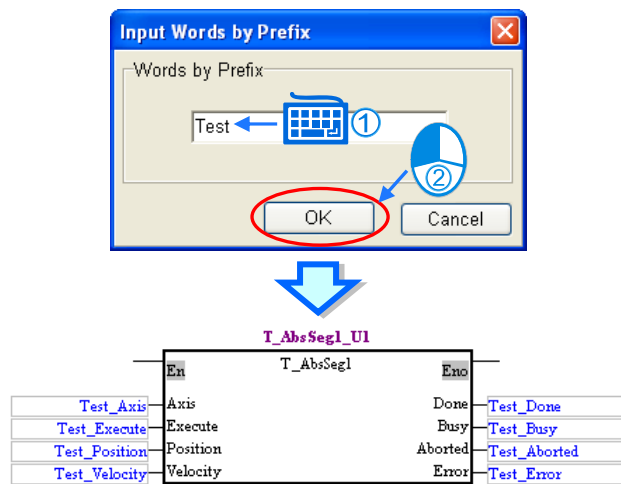

Figure 13-36 Typing a prefix
- (1) After **Input Words by Prefix** is clicked, the **Input Words by Prefix** window will appear. After the users type a prefix, and click **OK** in the **Input Words by Prefix** window, symbols will be assigned to the pins of the function block automatically, and they will be declared in the local symbol table in the POU, as shown in figure 13-36. The rule of generating a symbol is “Prefix_Pin name”. For example, if the prefix typed in the **Input Words by Prefix** window is “Test”, the symbol automatically assigned to the Axis pin of the function block definition T_AbsSeg1 will be “Test_Axis”.